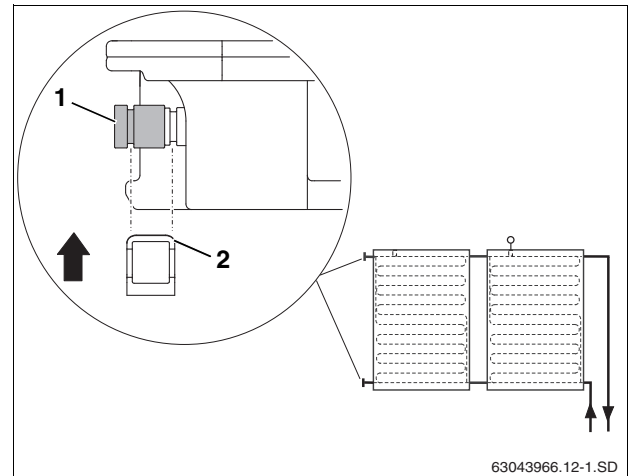

Fig. 36 Securing end cap with clip
- Push end cap with the O-rings (Fig. 36, [1]) onto the collector connection.
- Push clip sideways (Fig. 36, [2]) over the end cap and collector connection to secure it in place.
The collectors are attached to the horizontal rails using single-sided collector clamps (Fig. 36, [2]) at the two ends of a collector array, and double-sided clamps (Fig. 36, [1]) between two collectors.